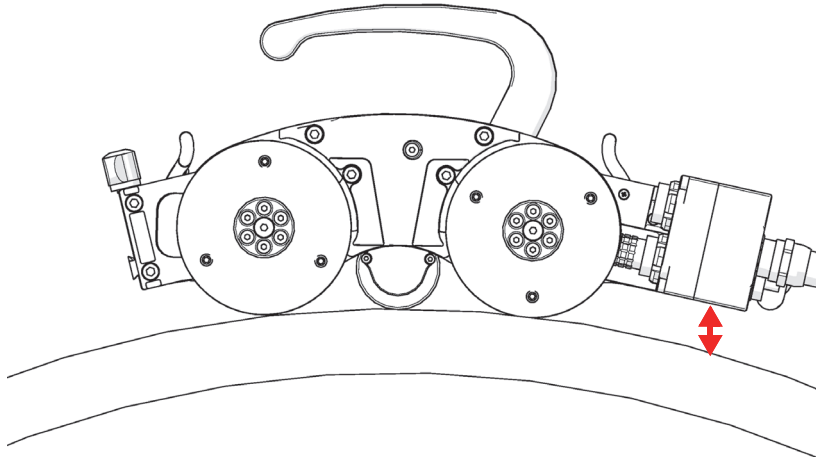

Figure 4-13 Swivel mount aligned parallel to scan surface
10. Align the front swivel mounts and umbilical mount to match the inspection surface's curvature (see Figure 4-13 on page 177).